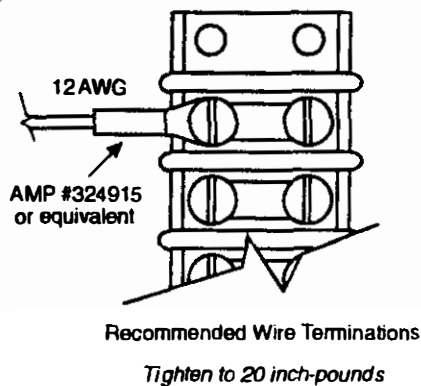

FIGURE 6-9 Wire Terminations for External Connections as Required for UL Listing
Serial Numbers 145 and above of the M-0420 are listed to UL Standards for Safety by Underwriters Laboratories Inc. (UL). To fulfill the UL requirements, terminal block connections must be made as illustrated in Figure 6-9: the wire should be No. 12 AWG inserted in an AMP #324915 (or equivalent) connector, and both screws tightened to 20 inch-pounds torque.